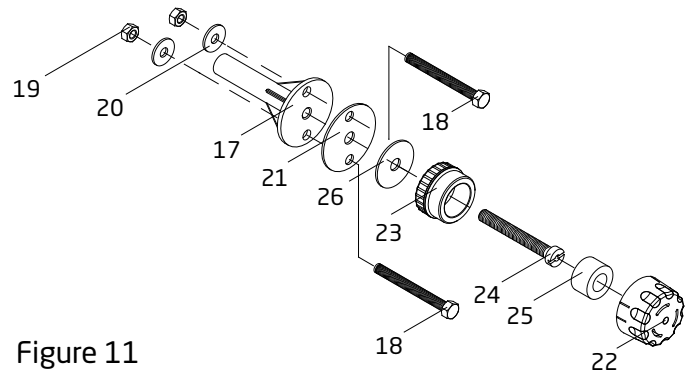

Figure 11
D. Install the hose ring (part #25) and snap the top part of the air regulator (part #22) into place. See Figure 11 for air regulator assembly.